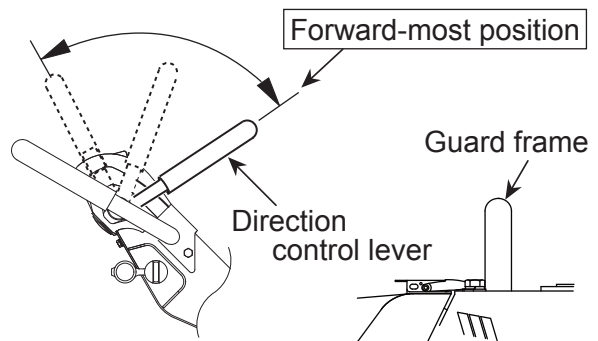

Figure 28. Direction Control Lever (Forward Position)
7. With the direction control lever at the forwardmost position, secure the guard frame with a rope to immobilize (Figure 28).